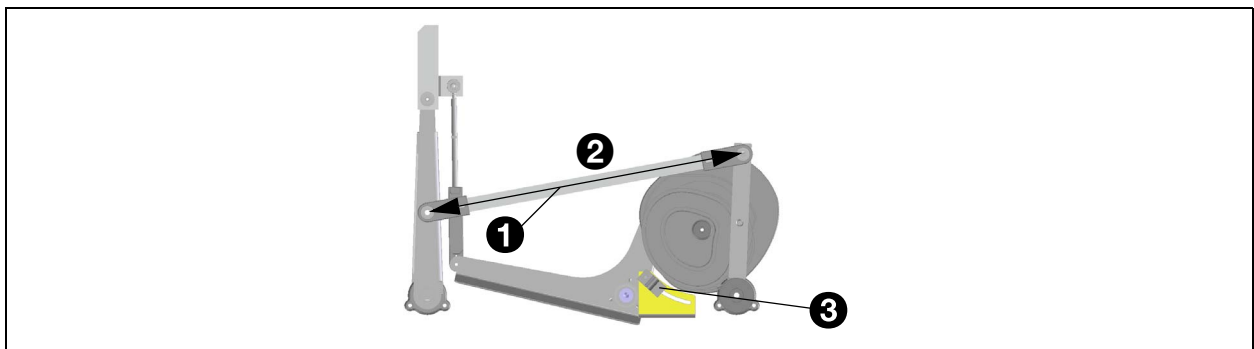

Fig. 186 - Start position of the closer arm
1. Set the closer arm (1) to the start position. The bearing must be located in the recess of the curved-disk. Turn the curved-disk to determine this point.
2. Adjust the pull-rod to 472 mm (2). See fig. 186.